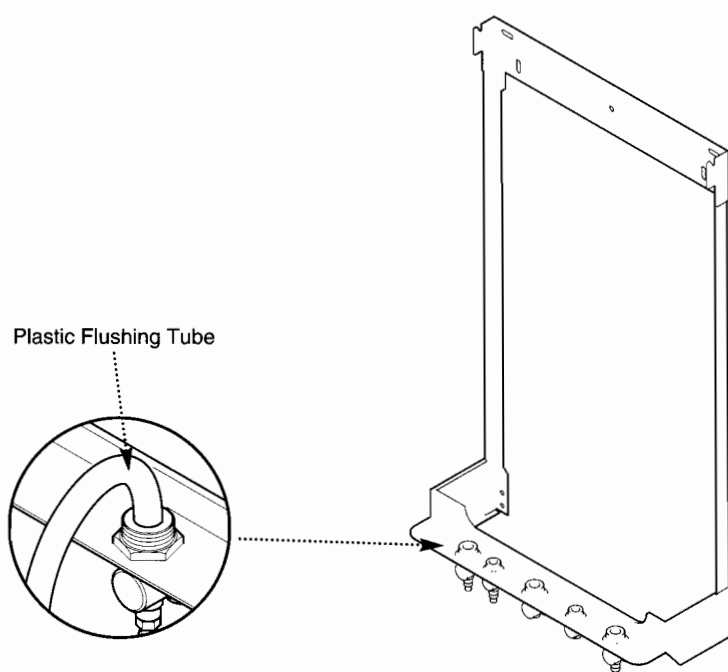

Fig. 14
1. Insert a tube into the valve outlet furthest from the filling loop (Fig. 14).